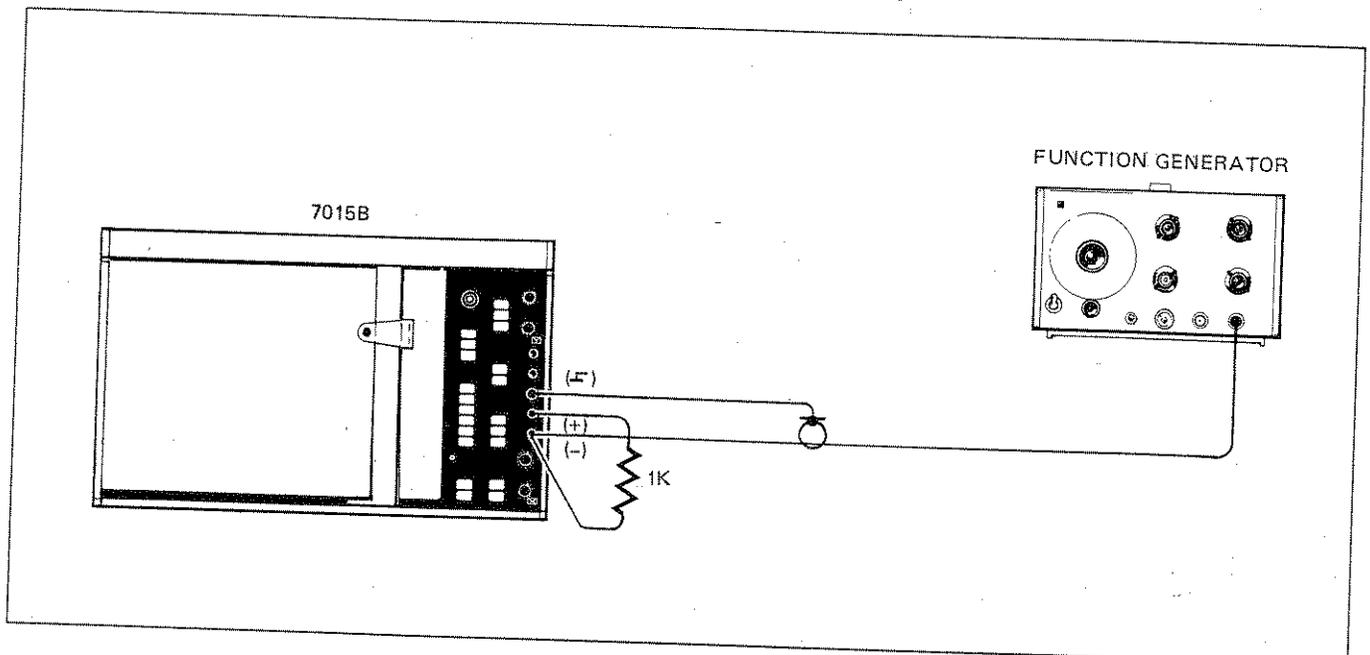

Figure 4-2. Connections for AC Common Mode Rejection Check
a. To test AC common mode rejection for the X-axis, install a 1k ohm resistor between X-axis plus and minus terminals. (See Figure 4-2.)
d. Connect an HP3310A Function Generator to the recorder, high to the (–) terminal and low to the (L) terminal. (See Figure 4-2.)